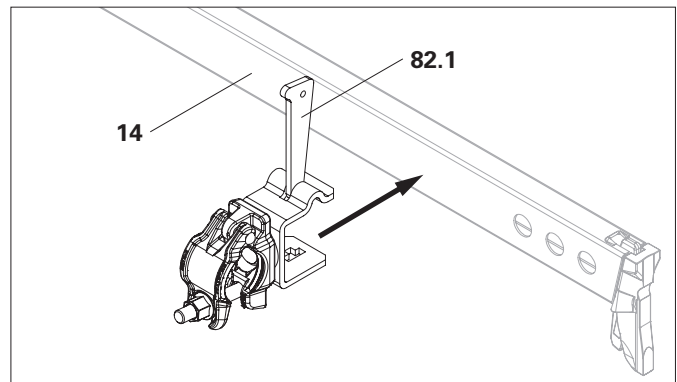

Fig. A10.04a
1. Pull the wedge (**82.1**) out of the clamping part and put the clamping part over the horizontal ledger (**14**) from the side. (Fig. A10.04a)